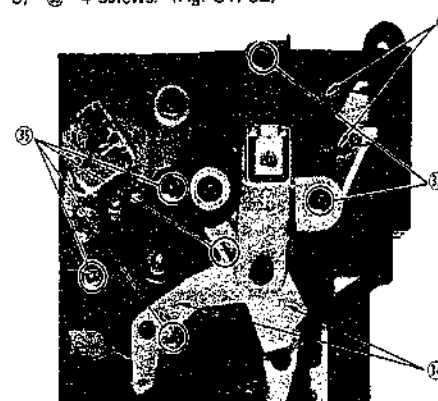

Fig. 31
- 1) Remove 2 springs ② (Fig. 31)
- 2) ② screws.
- 3) ② 4 screws. (Fig. 31, 32)